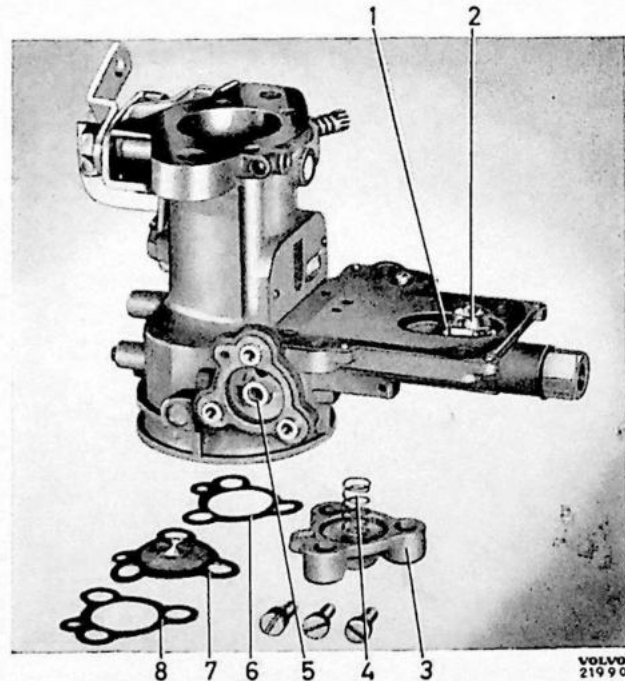

Fig. 70. Economiser valve.
5. Remove the valve for the float (2, Fig. 70). Be careful not to damage the valve washer. Remove the idling fuel screw.
6. Remove the attaching screws for the economiser valve (3) and remove the valve.
2. Make sure that the economiser valve disc (7, Fig. 70) seals correctly against its seat (5). Otherwise lap it with fine grinding compound but make sure that all traces of